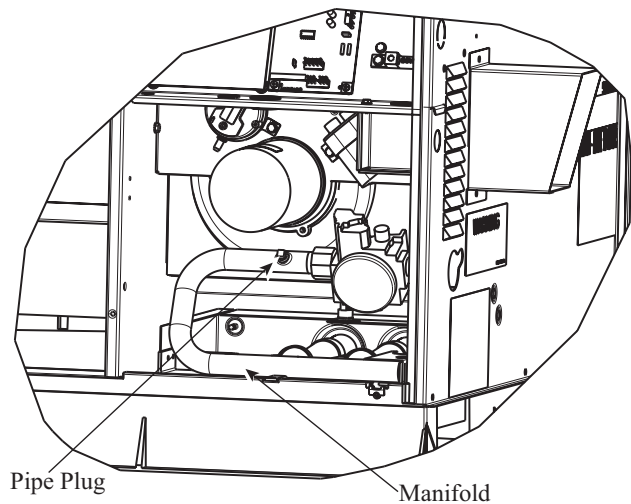

Fig. 13 - Burner Assembly
2. Remove pipe plug on manifold (See Fig. 13) and connect manometer. Turn on gas supply to unit.